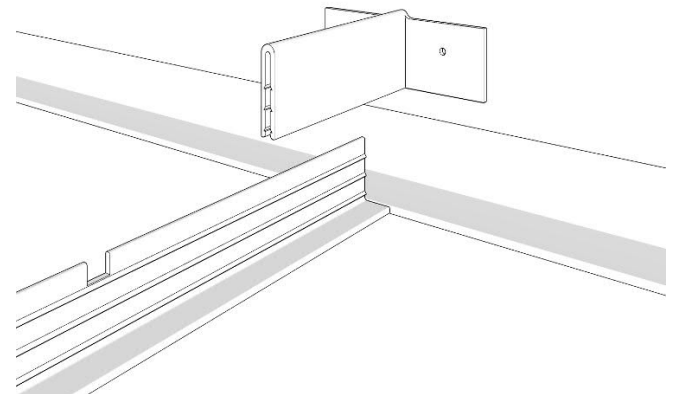

FIG. 11
2. Cut the **Crossrail** to length for the border areas and Install the **T-Clamp** at the starting end of the **Crossrail** (**T-Junction**). The **T-Clamp** should rest on top of the **Wallrail** and be securely attached to the wall to prevent shifting during the grid installation. This mounting will provide a flush rail finish. Use appropriate fasteners for job conditions. FIG. 11